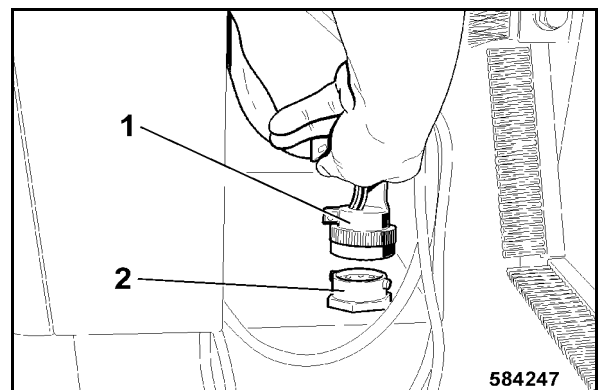

Fig. 225
- Insert the plug 1 (Fig. 225) into the socket (2).